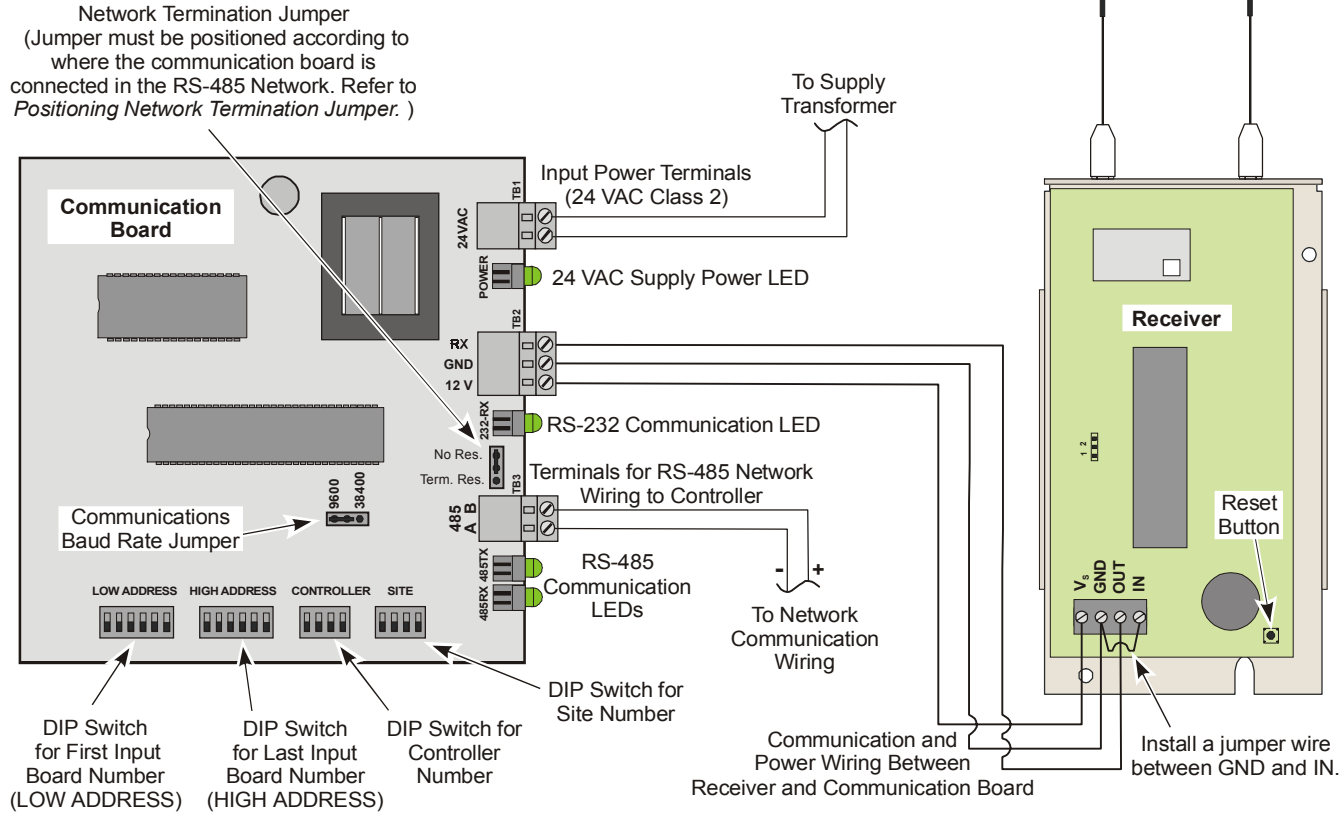
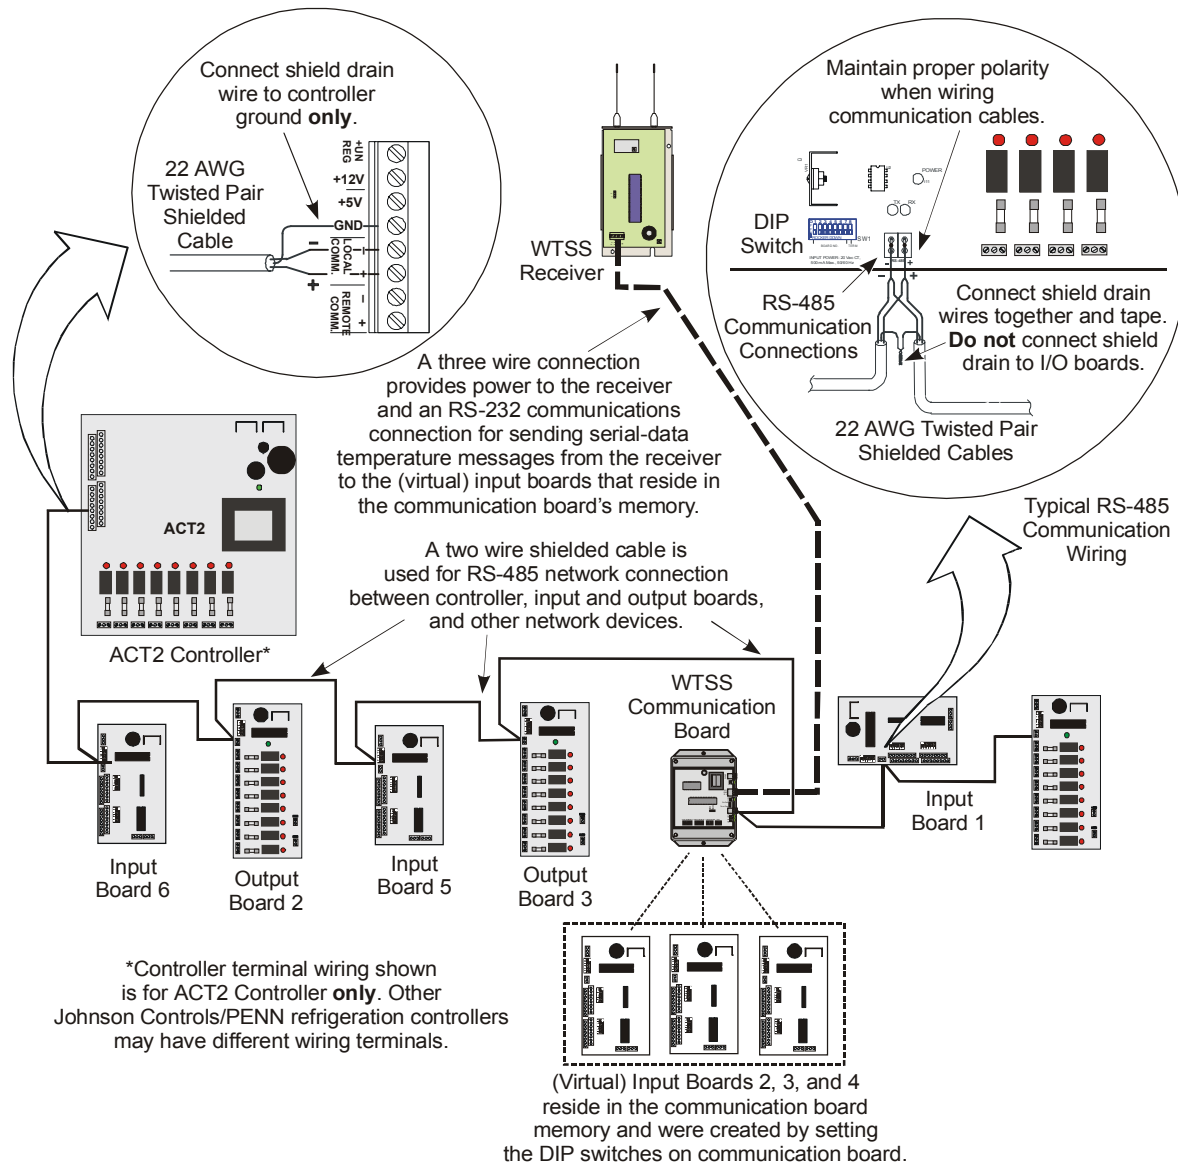
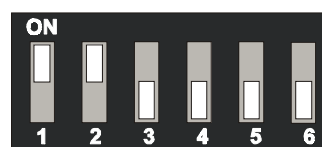

Figure 8: Wiring the Communication Board to the Receiver
Figure 9: Wiring the WTSS Communication Board into an ACT2* Refrigeration System Controller
Figure 10: Address DIP Switch
- Mount and wire the communication board in series with the other devices in the controller's RS-485 network connection. The total network cable length (between devices at either end of the RS-485 network) must not exceed 1000 ft. (305m). See Figure 9.
Observe the following guidelines, and refer to Figures 8 and 9 when wiring the WTSS.
- Belden 9451 (or equivalent 22 AWG, stranded, two wire, twisted-pair, shielded cable) is recommended for RS-485 network communication wiring. The total network cable length (between the network devices at either end of the RS-485 network) must not exceed 1000 ft (305m). See Figure 9.
- The RS-485 network connections between the communications board, all input and output boards and the controller are polarity specific. Make sure to maintain proper polarity between each device. Refer to Figures 8 and 9.
Before putting the WTSS into operation, the following settings must be established (on the communication board) by positioning two jumpers and setting three DIP switches. See Figure 8.
Communications baud rate is selected by positioning a jumper on the three pin Baud Rate terminal located just above the DIP switches. Most refrigeration system applications require a 9600 baud rate. See Figure 8.
If there are no input or output boards following the communication board in the refrigeration system's RS-485 communication network, the network termination jumper must be installed in the **TERM. RES.** position on the bottom two pins on the terminal block. If any inputs or output boards follow the communication board in the network (as illustrated in Figure 9), install the jumper in the **NO RES.** position on the top two pins on the terminal block. See Figure 8.
The input board numbers are established using the LOW ADDRESS and HIGH ADDRESS DIP switches on the bottom of the communication board. Refer to Figure 8. Once the board numbers are established, the communication board automatically assigns the input point numbers based on the transmitters' pre-programmed ID numbers.
For example, on the refrigeration control system illustrated in Figure 9, three standard (external) input boards and 35 WTSS transmitters are used. Three virtual input boards must be created in the communication board memory to accommodate the 35 transmitters.
The site ID number and the controller ID number must also be set. These ID numbers are established at the CONTROLLER DIP switch and the SITE DIP switch. See Figure 8 for DIP switch locations. Refer to Table 3, Figure 10, and *Setting the DIP Switches*. Use the first four switch positions to set the controller ID and SITE number.
Use Table 3 to set the LOW ADDRESS and HIGH ADDRESS DIP switches, as well as the SITE and CONTROLLER DIP switches. Refer to Figure 10.